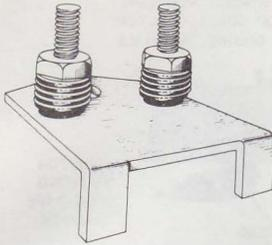
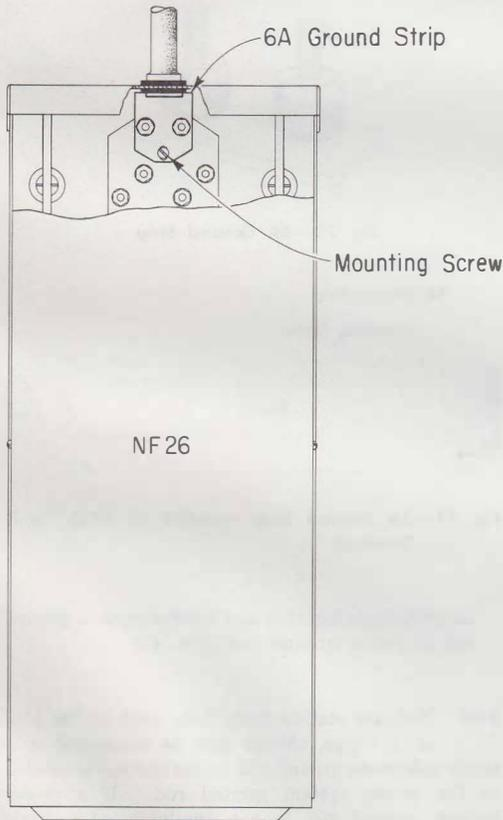

Fig. 72—6A Ground Strip
Fig. 73—6A Ground Strip Installed in NF26 Cable Terminal
7.07 The 6A ground strip (Fig. 72) consists of a brass plate with two binding posts. It is intended for use in 26-pair NC, NE, NF, and NH cable terminals and is mounted in the same manner as the 5A strip (see Fig. 73). The 6A ground strip has a capacity of 10 wires.